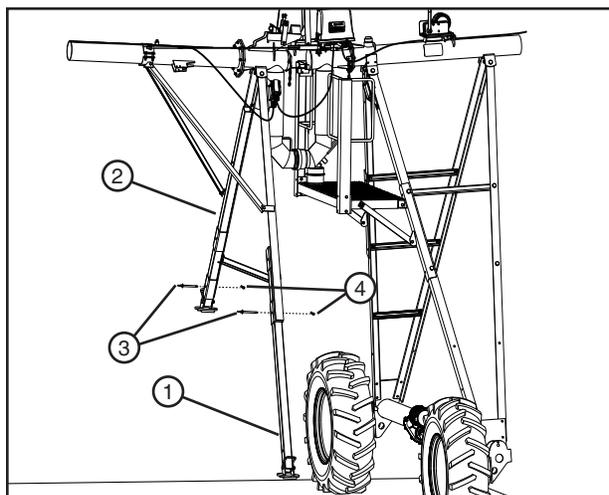

Figure 32-2 1. Front Support Leg
16. Remove 3/4 in pins and raise the forward and rear support legs. Lock each leg in raised position with a 3/4 in pin. Secure each 3/4 in pin in place with a lynch pin. See Figure 32-2.
17. Insert the torque pins, secure the pins by inserting lynch pins. See Figure 32-2.